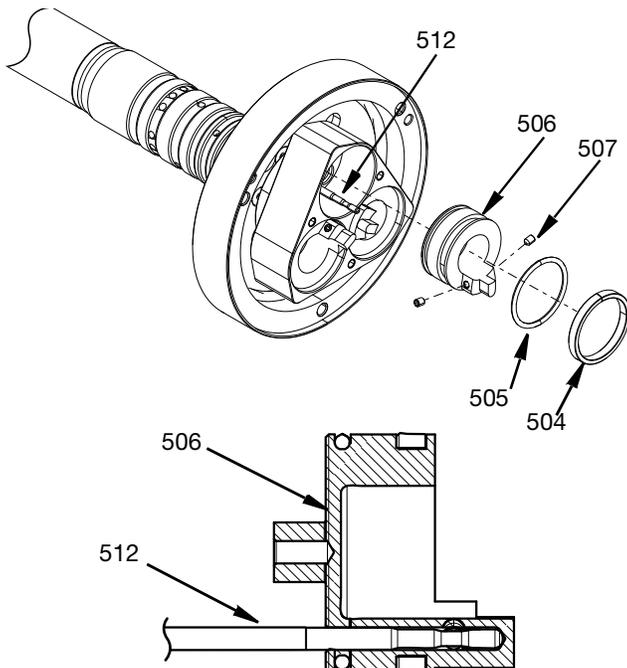

FIG. 34
- a. Apply lubricant to the O-rings (505) and the guide rings (504).
- c. Insert the pistons into the cylinder housing (509) while aligning the rod shutoff valve hole with the rod shutoff valve (512).
- d. Push the pistons and rod shutoff valve together so the rod shutoff valves bottom out into the piston hole. See FIG. 34.
- e. Apply threadlocker to the two M3 set screws (507) and tighten to lock the piston and rod shutoff valve together. Torque to 5 in-lbs (.56 N•m).
16. Check the movement of the rod shutoff valve and piston so that they move freely and evenly without binding. See FIG. 34.